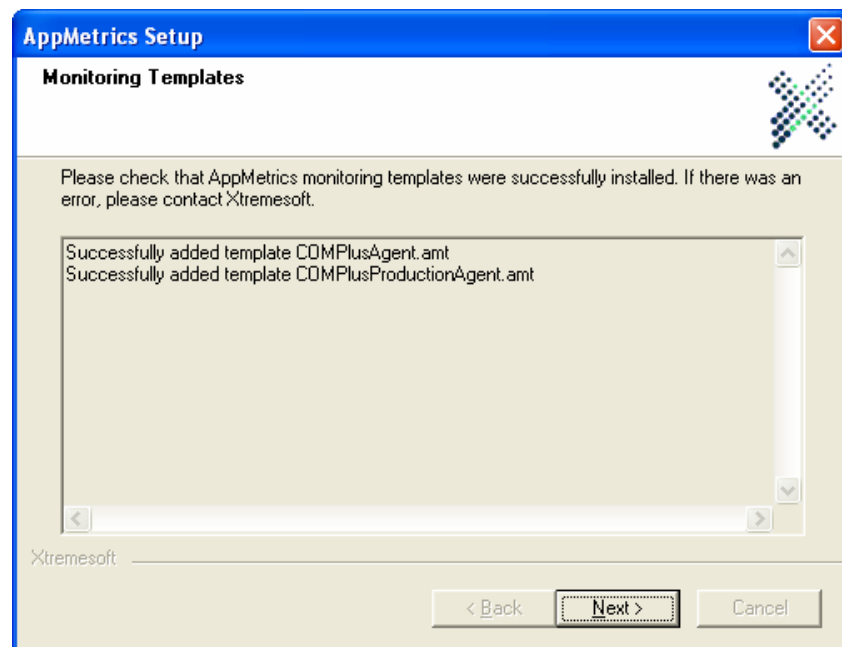

Figure 10
11. The Monitoring Templates wizard screen appears (see Figure 10). Click **Next**. The “**Setup is complete**” screen appears.